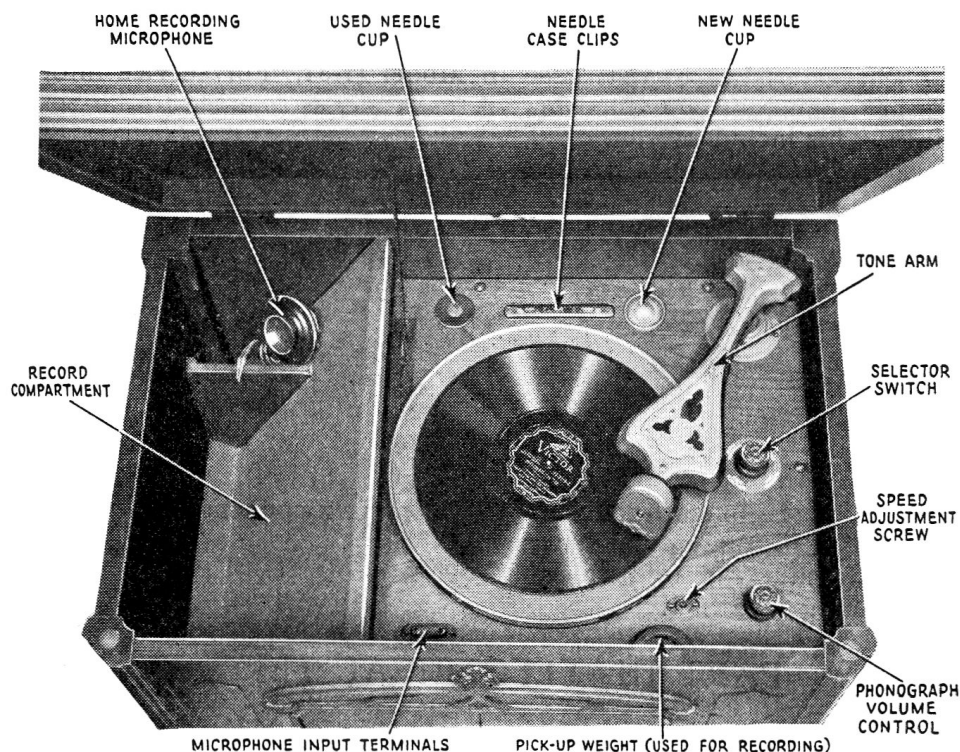

Figure 4—View of phonograph parts
**Phonograph**—When the rotary selector switch is in the "Phonograph" position, the radio portion of the receiver is made inoperative and the second detector is used as an audio stage together with the power amplifier. The magnetic pick-up is suspended by the new "inertia" type tone arm. This name originates from the method of weighting and then counter-balancing so as to have sufficient weight and mass present for best reproduction. This weight prevents the tone arm and pick-up from vibrating with the record variations and provides true reproduction, due to the needle following exactly the record variations. The phonograph parts are shown in Figure 4.